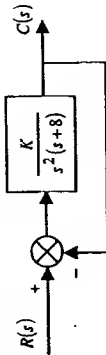

Figure 2
- Consider the control system shown in Figure 2.